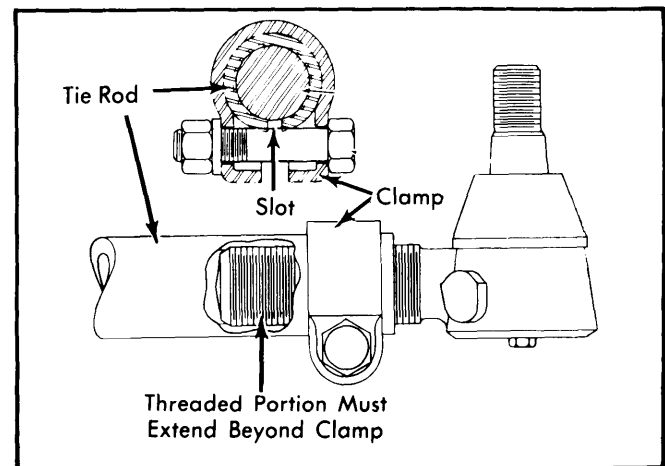

Fig. 2 Positioning Clamps on Tie Rod
**Tie Rod End Replacement** – Loosen tie rod end clamp bolts. Unscrew tie rod end from tie rod. To install, reverse removal procedure. Make sure tie rod end is threaded into tie rod sufficiently so that clamping action will be directly over threads. Position clamp on tie rod as shown in illustration (see Fig. 2).